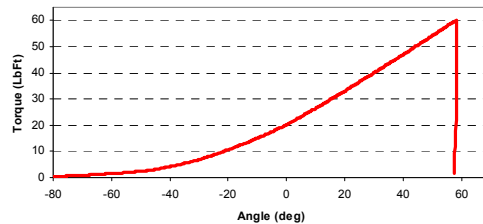
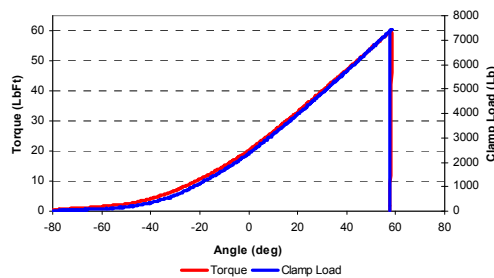
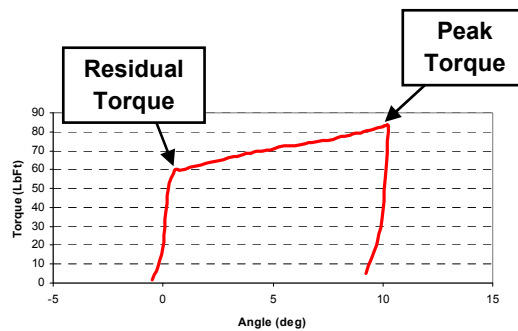
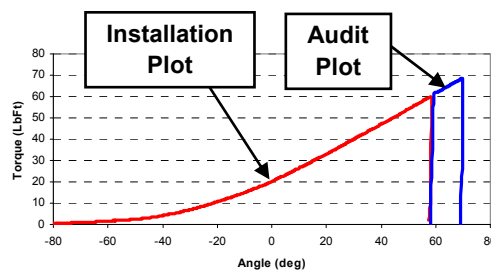

Figure 2: Torque Angle Plot
Figure 3: Torque-Tension Combined Scaled Plot
Figure 7: "Traditional" Breakaway Tightening Audit Signature
Figure 8: Installation & Audit Plots
The torque-angle signature does not directly provide a measure of the fastener tension. However, it has been verified that for a given bolted joint, properly qualified, this signature can be used to directly estimate the clamping force on the bolt, as seen in Figure 2. For example, strain gages on a bolt or stud can be used to simultaneously measure the installation torque and the bolt tension. By scaling and plotting the measured torque and tension, shown in Figure 3, it is apparent that both are in direct proportion to each other.
The objective of the M-Alpha Audit process is to **determine the “Elastic Tightening Angle”** for a precisely tightened fastener. The amount of clamping load in the joint is directly proportional to the elastic tightening angle. The process of the torque-angle curve analysis is shown in Figures 7 through 10 to illustrate the concepts of the “Elastic Origin” and how the “Elastic Tightening Angle” is determined for a given bolted joint.
Step 1: Tighten the fastener with the specified torque (as seen in Figure 2, previously) stopping in the elastic clamping region.
Traditional audits simply measured the peak torque values or used a calculation algorithm to more accurately locate a residual torque value as a measure of the joint integrity. The M-Alpha method allows the residual torque value to be measured, as shown in Figure 7. More importantly, a paradigm concept, the M-Alpha audit can provide an accurate estimate of the residual clamping load on the tightened fastener.
To illustrate the M-Alpha Audit, overlay the audit signature (Figure 7) with the installation signature (Figure 2) as shown in Figure 8.